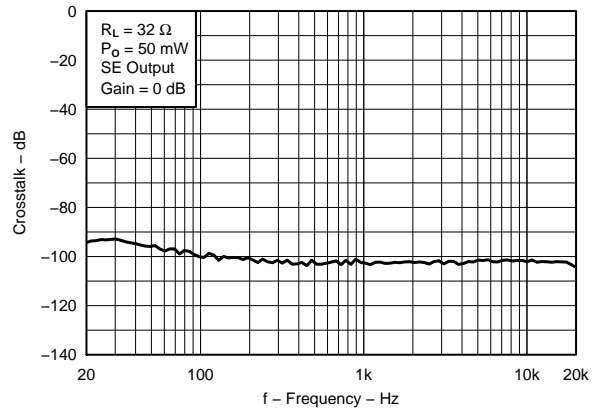

Figure 15.
| | Crosstalk (SE) | vs Frequency | Figure 15 |